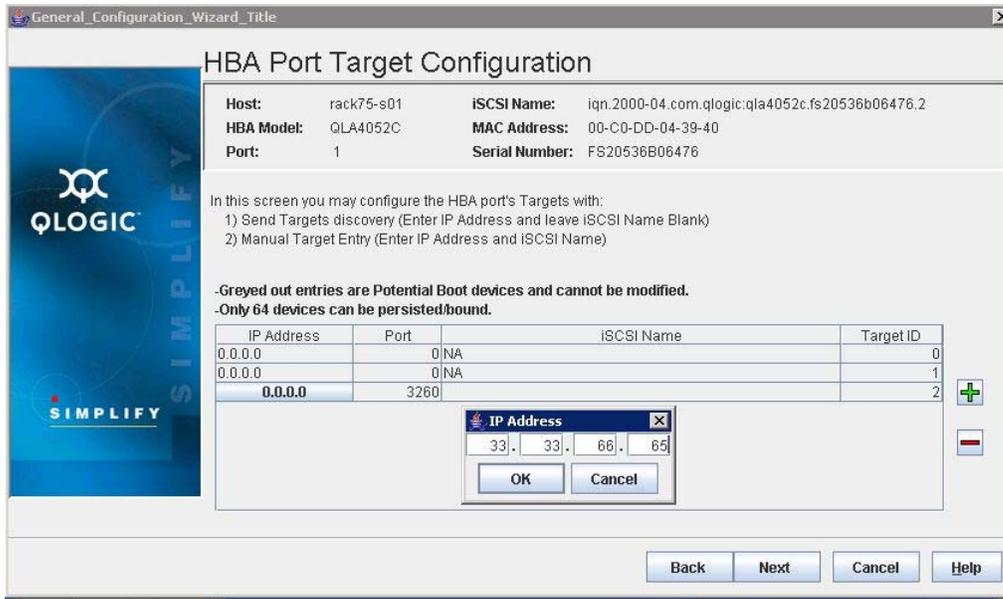

Figure 59 HBA port target configuration
1. Click the green plus sign (see Figure 59).